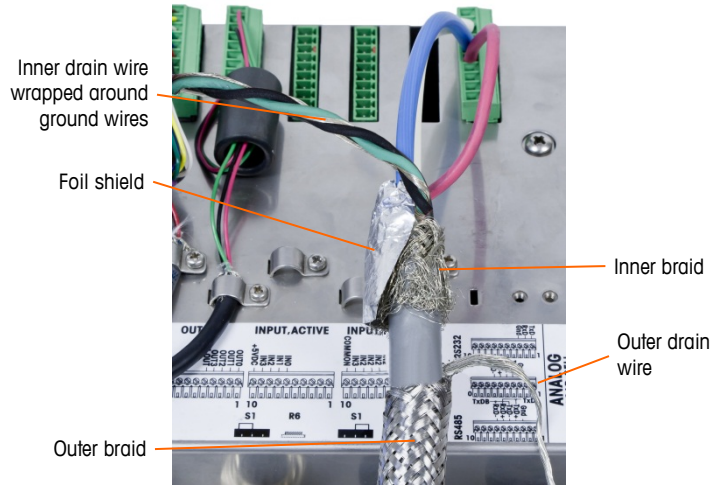

Figure A-65: POWERCELL PDX Home Run Cable, Panel Mount Enclosure
- a. Slide back the outer braid and fold the trimmed inner braid and foil shield back evenly over the edge of the cable insulation sheath, as shown in Figure A-65.